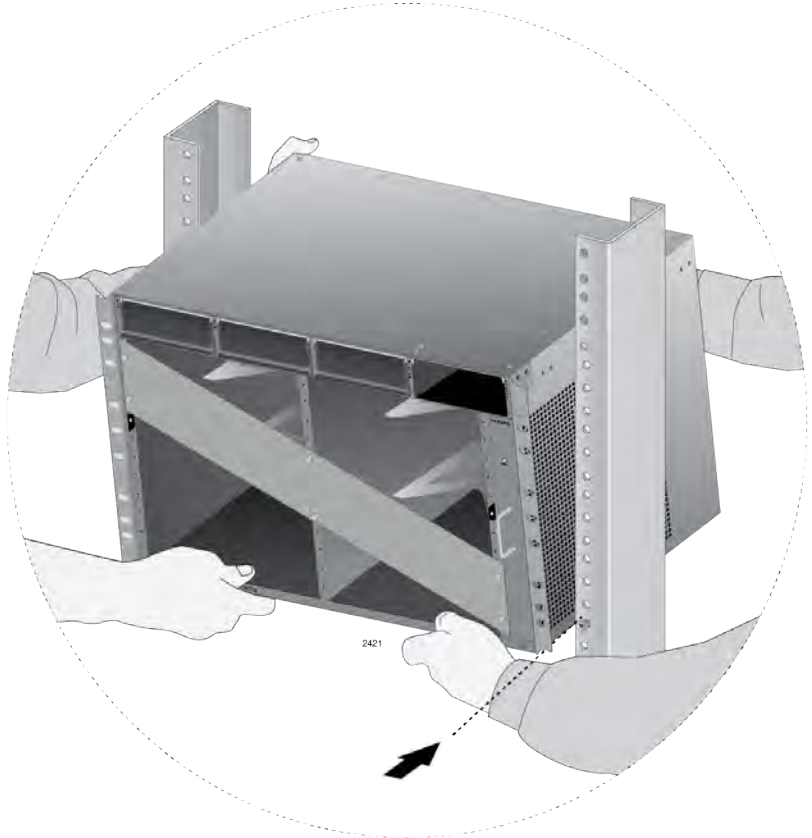

Figure 44. Lifting the AT-SBx8112 Chassis into the Equipment Rack
2. Do not mount any other equipment within 152.4 mm (6") above this space during installation. This additional vertical space is temporary and allows you enough room to lift and tilt the chassis into its position in the equipment rack without hitting other equipment, as shown in Figure 44 on page 119. You may use this additional space for other network equipment after the chassis is installed.
1. While facing the front of the chassis, tilt the top of the chassis toward you, as shown in Figure 44 on page 119.
2. Lift the AT-SBx8112 Chassis into the equipment rack and set the bottom of the equipment rack brackets firmly on the two equipment rack screws you installed in “Preparing the Equipment Rack” on page 111, as shown in Figure 44.